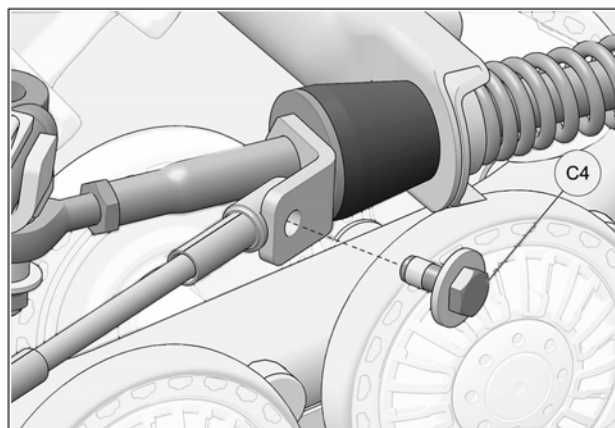

Fig. 24
16. Reverse steering wheel a little to be able to bolt support plate and cable together. Tighten provided bolt (C4) to 35 N•m [24 lb•ft]. See Fig. 24. Repeat steps on right side.